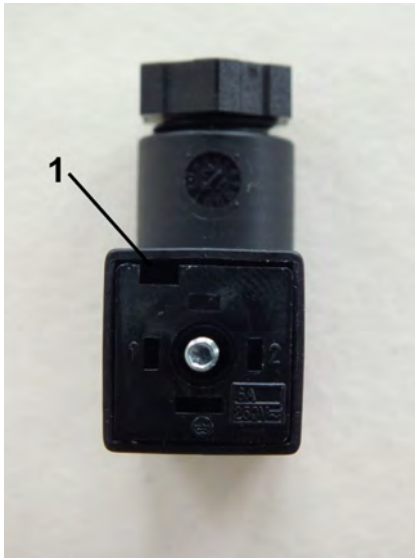

Fig. 23: Disconnect inner section
3. ➤ Remove the inner section from the socket. To do this, place a flat-bladed screwdriver into the slot (Fig. 23/1) and carefully pry out the inner section. and carefully pry out the inner section.
7. ➤ Place the inner section (Fig. 23/1) back into the socket and push until it locks on